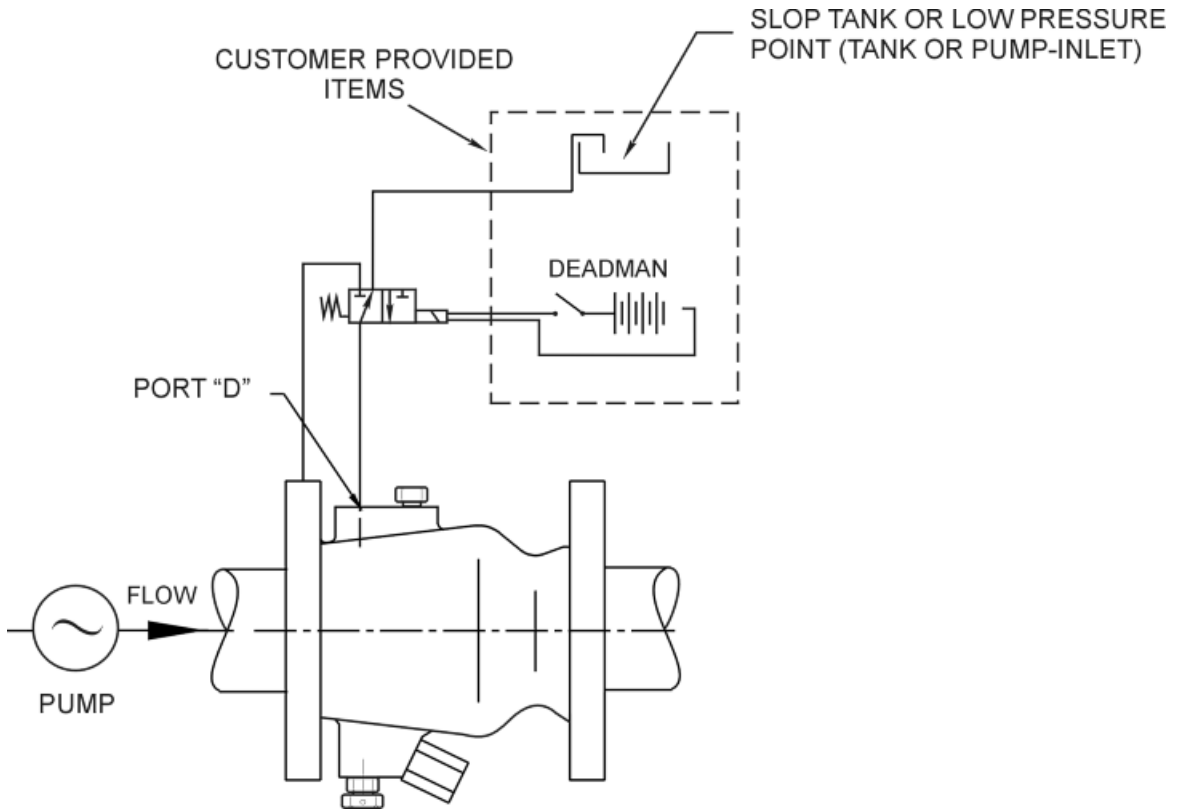

FIGURE 4 - 64110A(B)2 FUEL SET PRESSURE CONTROL VALVE
- 4.3.3 There are three connection points within the connector. The center one, marked "GND", will not be used in this installation. Two wires will be used to connect each solenoid valve to one side of the battery while the other two are connected to the deadman switch as shown in Figure 4 & 5. (That are four (4) wires total for each 64124/64082.) THE TWO WIRES CAN BE CONNECTED TO THE TWO POINTS WITHIN THE CONNECTOR IN ANY ORDER. The solenoid valve will work the same in either case.
rate greater than the amount at which the rate is to be limited, establish maximum flow capable. Note screw driver shown in Figure 4. Clockwise turning of the screw will reduce the rate of flow at which the unit will control. Allow time for the system to stabilize after each adjustment. Continue adjustment until desired flow rate is achieved.